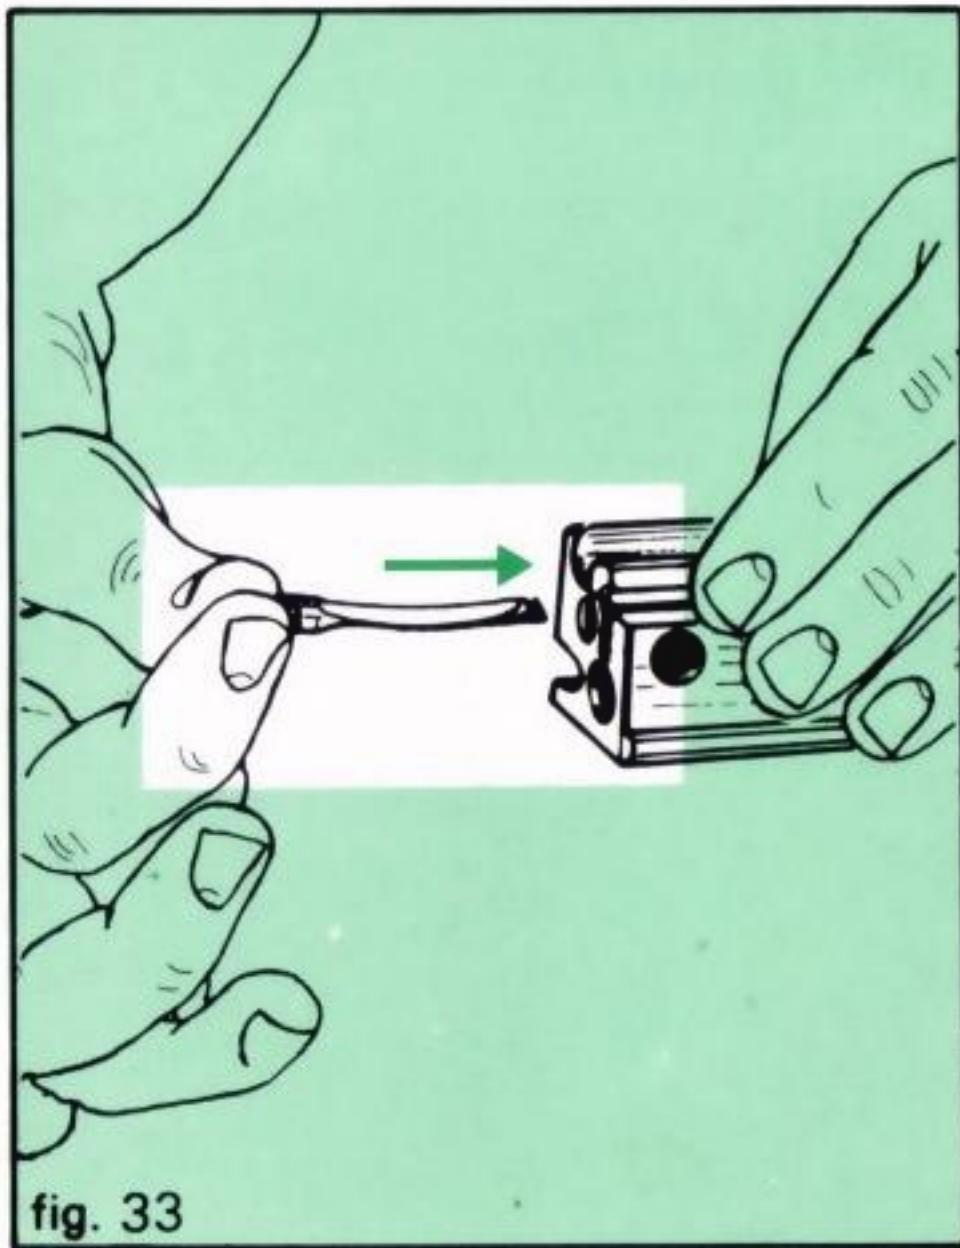

fig. 33
2. Insert extractor in bolt from the rear with claw forward and slot in thick end up (fig. 33).